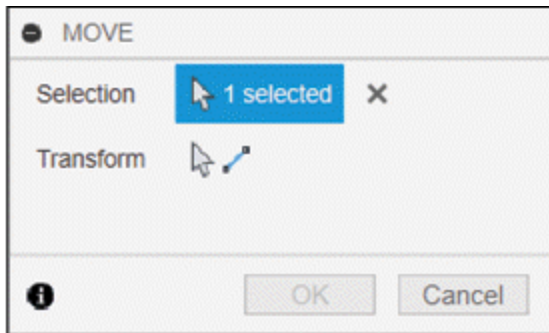

Figure-34. Updated MOVE dialog box
- The **Select** button of **Selection** section in **MOVE** dialog box is active by default. Click on the view to select the view to be moved. The updated **MOVE** dialog box will be displayed; refer to Figure-34.